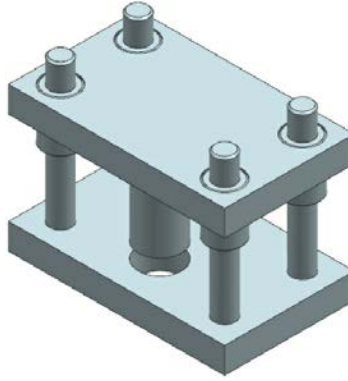

Figure 9-79 The final Press Tool assembly
- Assemble the components in the assembly file, refer to Figure 9-79.
3. Choose the **Assembly Constraints** tool from the **Assemblies** tab and apply the required assembly constraints to all components. The final Press Tool assembly is shown in Figure 9-79.